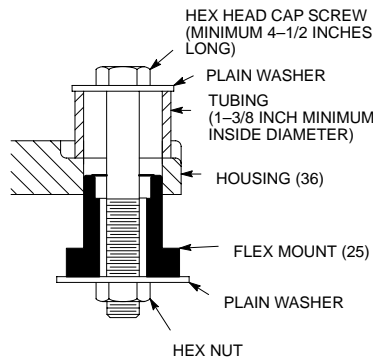

FIGURE 5 – FLEX MOUNT INSTALLATION
4.3 To install new mounts, use a long bolt and a piece of tubing as shown in Figure 5.